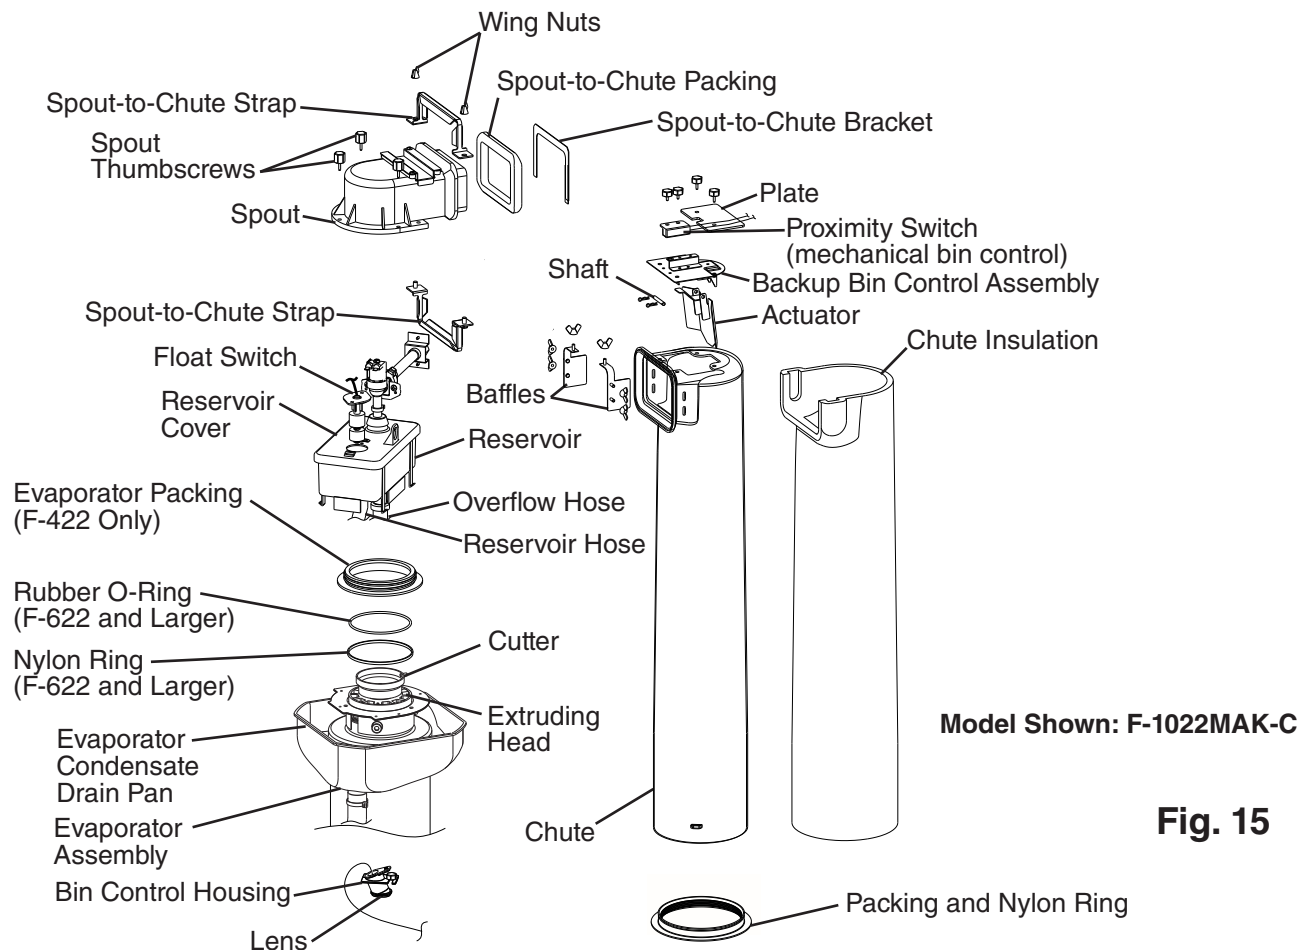

Fig. 15
- 6) Remove the spout-to-chute strap connecting the spout to the chute assembly, then remove the spout. See Fig. 15.